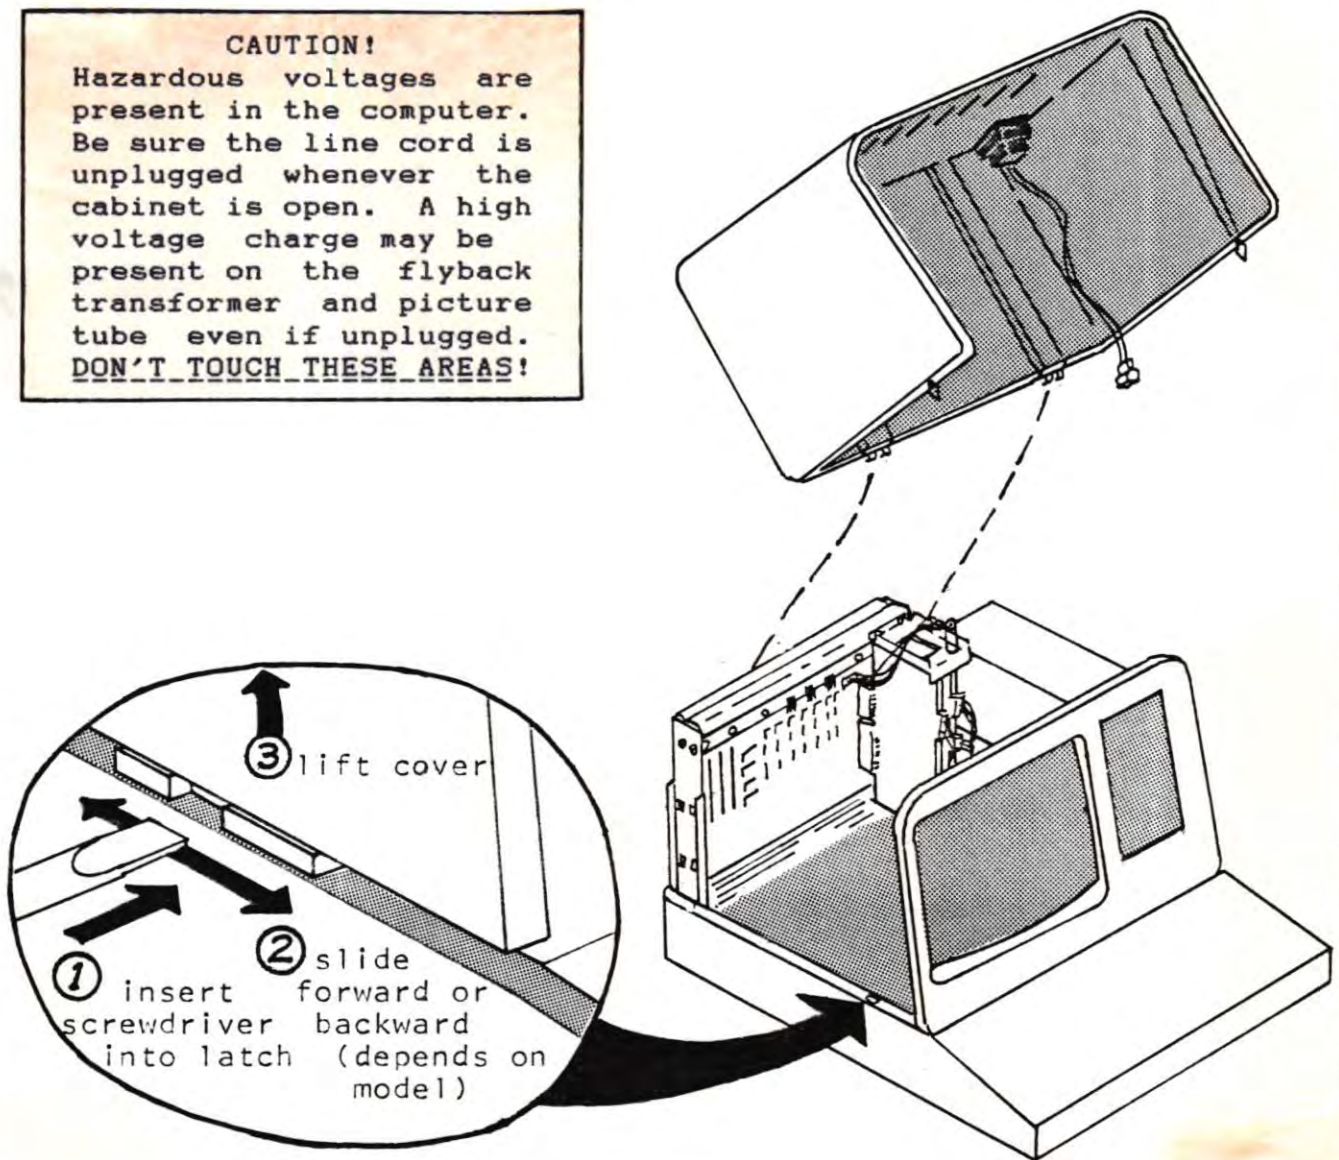

FIG. 1-1 OPENING THE CABINET
- () Locate the two latches on either side of cover (fig. 1-1).